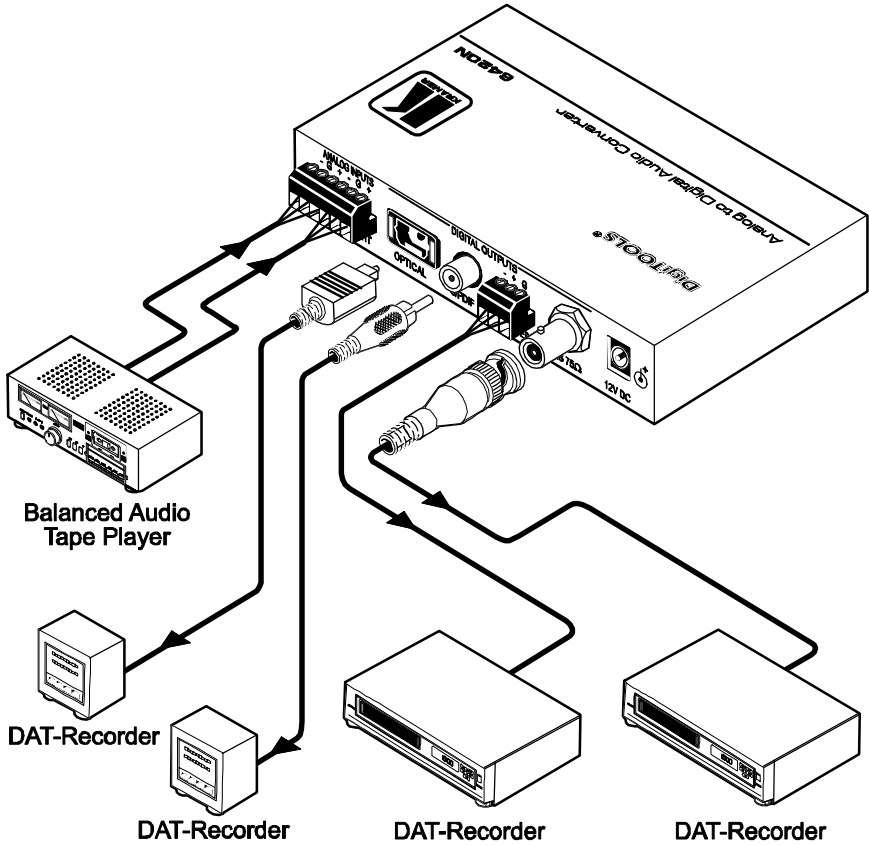

Figure 7: Connecting the 6420N Analog to Digital Audio Converter
To connect your **6420N Analog to Digital Audio Converter**, as illustrated in the example in Figure 7, do the following¹:
3. Connect the 12V DC power adapter to the power socket and connect the adapter to the mains electricity (not shown in Figure 7).